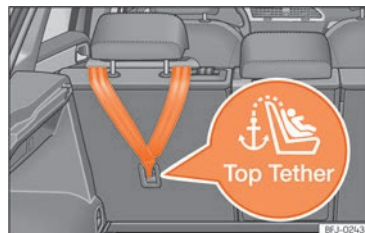
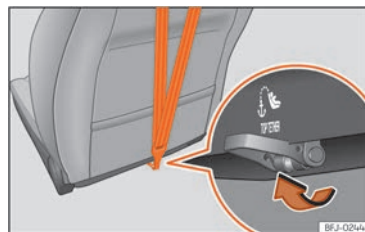

Fig. 46 Rear part of the second row of rear seats: securing rings for the Top Tether strap.
Fig. 47 Rear of front passenger seat backrest: Top Tether strap anchor.
- Slide the strap and secure it properly with the anchor on the rear seat backrest >>> Fig. 46 , >>> Fig. 47.